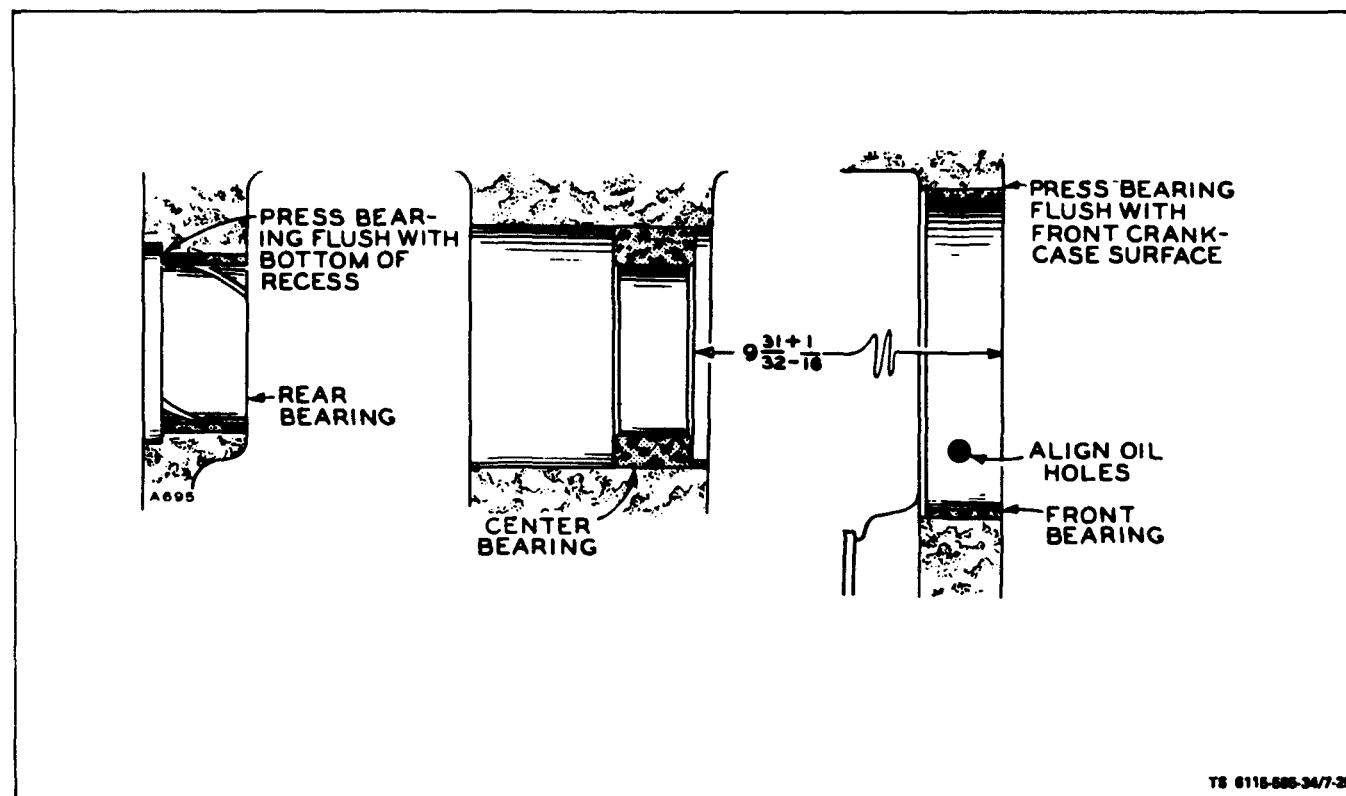

Figure 7-25. Camshaft Bearing Installation
(1) Press new camshaft bearings into place. See figure 7-25 for proper placement. Press rear bearing flush with bottom of expansion plug recess. Press front bearing in flush with crankcase front surface so oil passages are aligned. Do not attempt to ream bearings, they are a precision type. After rear bearing is installed, insert a new expansion plug in recess, using sealing compound, and expand it into place with sharp blows at its center.